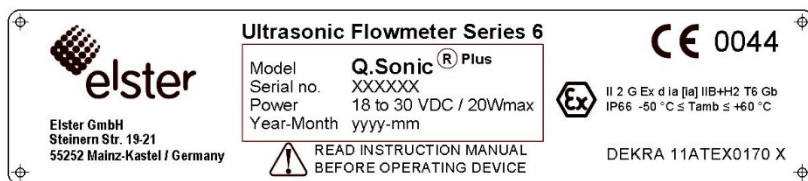
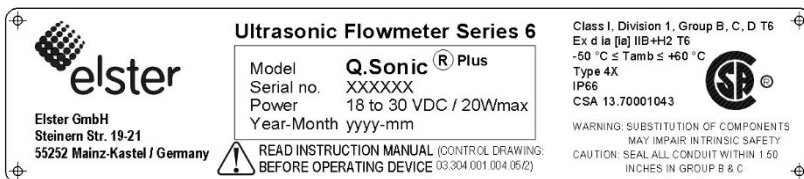

Figure 5-6: Example of an ATEX Label
Figure 5-9: Example of a CSA Label
- Refer to the type plate on the SPU for the applicable hazardous area approval. This could be according to ATEX, IECEx, FM or CSA. ⇒ Please refer to Figure 5-6 to Figure 5-9 for type plate examples for a Q.Sonicplus meter.